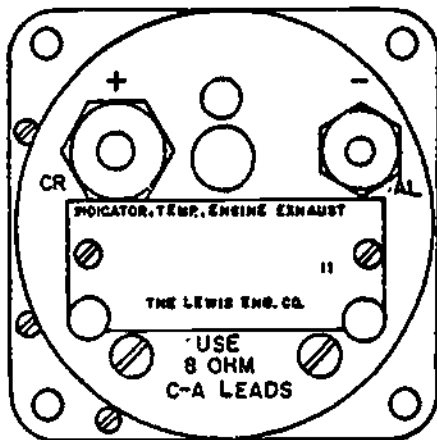
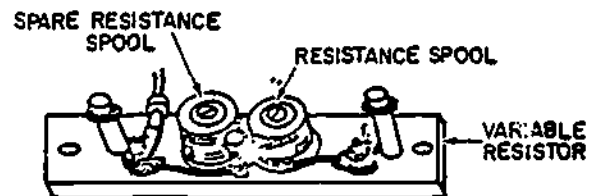

Figure 20.
Figure 21.
The resistance of the thermocouple leads is 2, 8, or 22 ohms \pm 0.1 ohm. Since practically no two aircraft use the same length wires, there has to be a way to adjust the overall resistance of the circuit. The wires cannot be cut as that would reduce the overall resistance of the leads and cause faulty readings. This means a variable resistor like the one shown in figure 20 must be used. The variable resistor can be adjusted to change the overall resistance of the circuit to within allowable tolerance.
Both thermocouple systems can use the same resistor. The resistor has two spools of wire, one of which is used as a spare. The wire on these spools is rated at 0.7 ohms per foot. The resistance of the leads is shown on the back of the instrument as shown in figure 20. To obtain the proper resistance for the circuit, wire is removed from one spool until the desired resistance of the circuit is obtained. The resistance of the circuit is always measured with the variable resistor in the circuit. A variable resistor is shown in figure 21.
Refer to figure 20 and circle the letter of the correct response to the following statement(s).
1. The overall resistance of the circuit is 10 ohms. To obtain the correct amount of ohms for the indicator in figure 20 you would